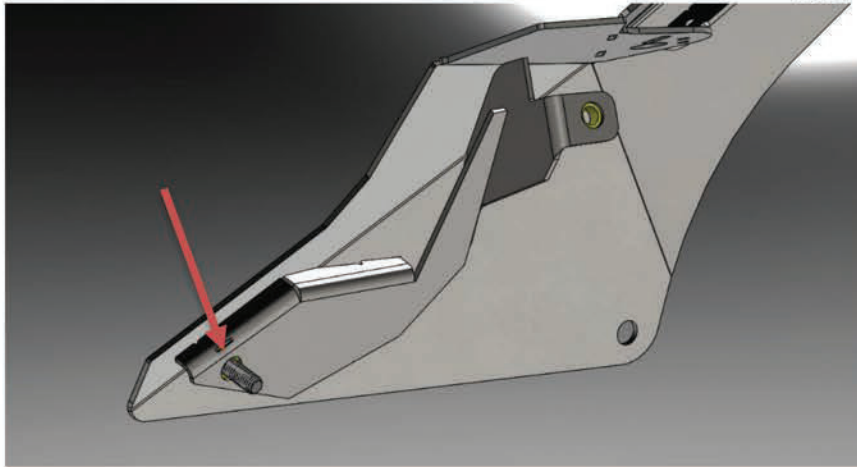

Fig 20.
- n. Using blue Lock tight, install the included stud into both arms of the Vicowl as shown in **Fig 20** and indicated by the red arrow.